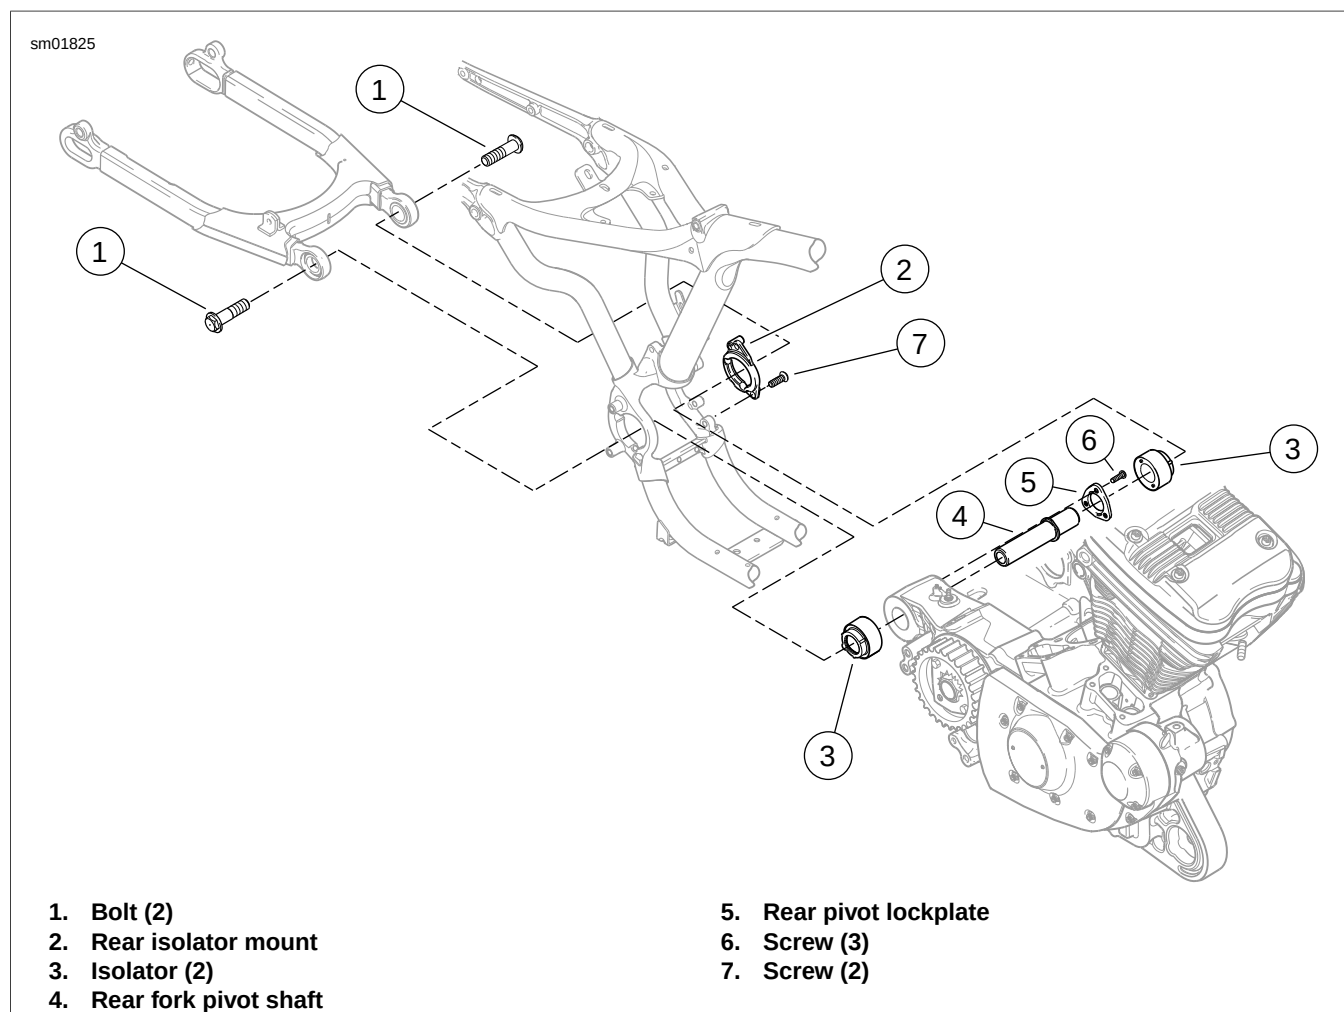

Figure 2-214. Rear Engine Mount/Isolator: Typical (XL Model Shown)
12. See Figure 2-214. Remove rear fork pivot bolts (1).
19. See Figure 2-214. Remove two screws (7) securing rear isolator mount (2) to left side of frame. Remove isolator mount and left isolator (3).
20. Remove three screws (6) securing rear pivot lockplate (5) to rear of engine case. Remove lockplate and rear fork pivot shaft (4).
1. See Figure 2-214. Install **new** right rear isolator (3) into frame, lining up tabs on isolator with slots in frame. Slide rear end of engine to the right until engine mounting boss on rear of crankcase contacts right isolator.
2. Slide rear fork pivot shaft (4) through engine mounting boss.
11. See Figure 2-214. Slide rear fork forward into position. Install rear fork pivot/engine mount bolts (1). Tighten to 60-70 ft-lbs (81.4-95.0 Nm). Remove vehicle tiedown straps supporting rear fork.